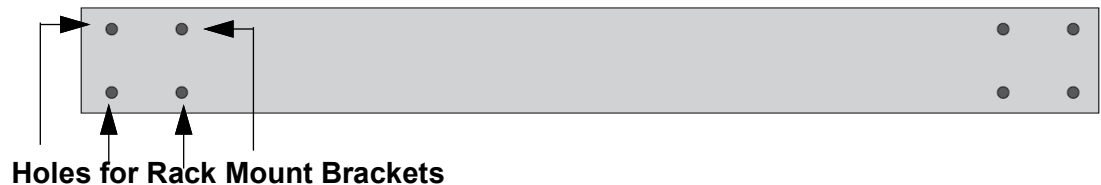

Figure 58. Holes for the Brackets on the x250-28XHm Switch
- ☐ For the x250-28XHm switch, use four holes on one side to attach the bracket. See Figure 58 for identifying the holes for the brackets on the side panels.